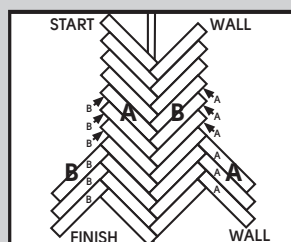

Fig. 7
8. Begin at the 'Finish wall' and slide the end joint of a 'B' plank into the side of an 'A' plank. Slide the 'B' plank back into the end of the 'A' plank at a slight angle until tight (Fig 7). Note: if there is any drift off the center line, the product can be moved back and forth across the floor (Fig 7).